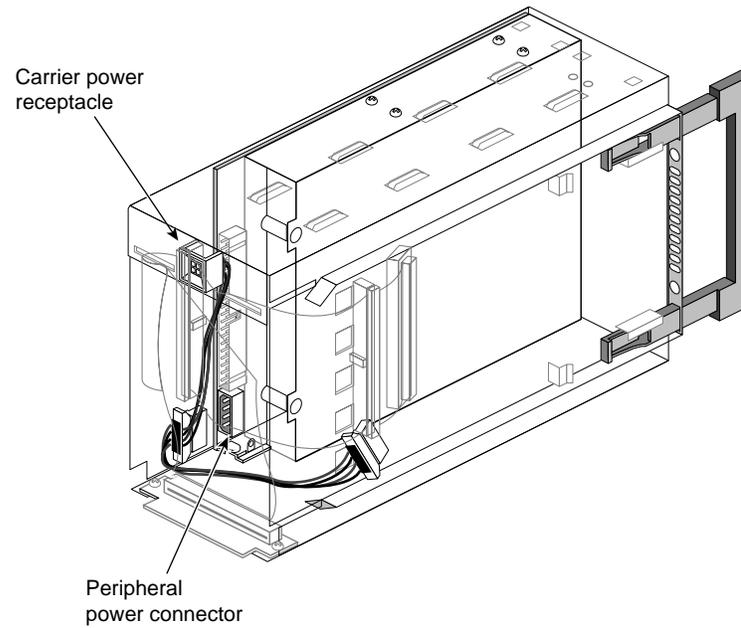

Figure 2-20 Attaching a Power Connector to a 5.25-inch Drive
5. Attach one of the power connectors at the rear of the carrier to the drive. Use whichever connector fits conveniently for the position of the drive's power receptacle. See Figure 2-20.